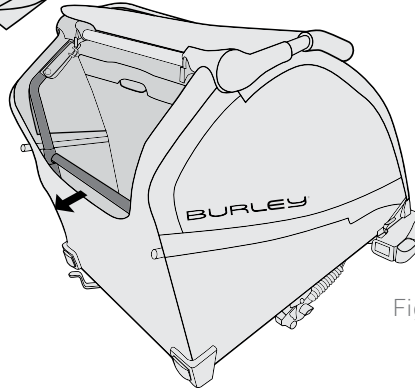

Figure 2
2. Pull middle frame tube towards you (Figure 2).